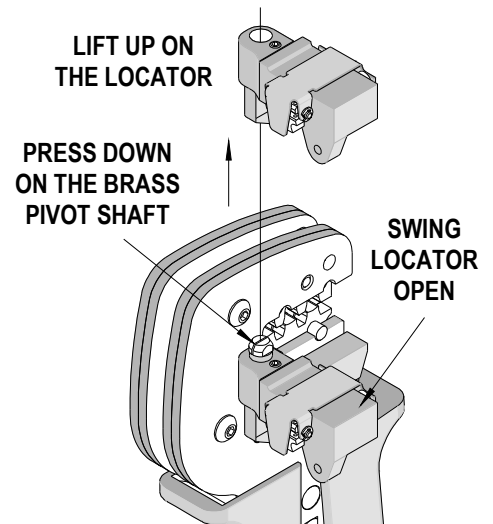

Figure 6
3. Firmly press down on the brass pivot shaft with your thumb, while pulling the locator up. Slip the locator off the top of the brass pivot shaft. See Figure 6.